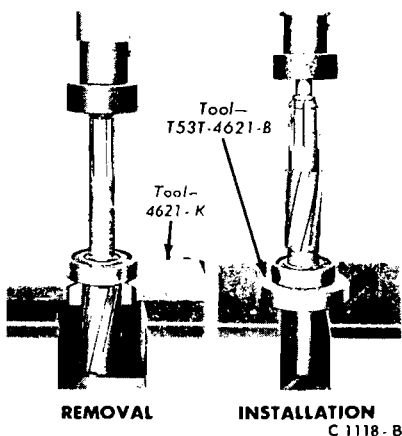

FIG. 18—Replacing Output Shaft Bearing
2. Remove the snap ring and press the old bearing off and the new bearing on with the tools shown in Fig. 18.